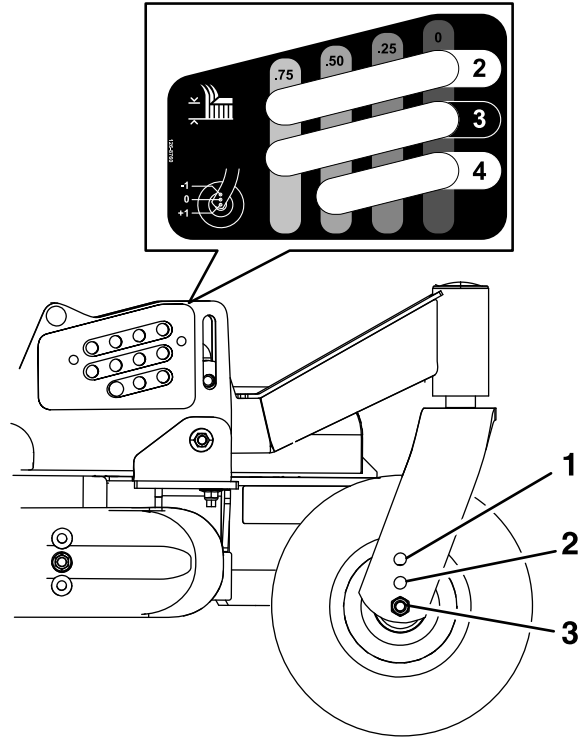

Figure 22
- B. Adjust the front and rear gauge wheels to the appropriate hole location (see the chart below and Figure 22) and reinstall the mounting hardware.